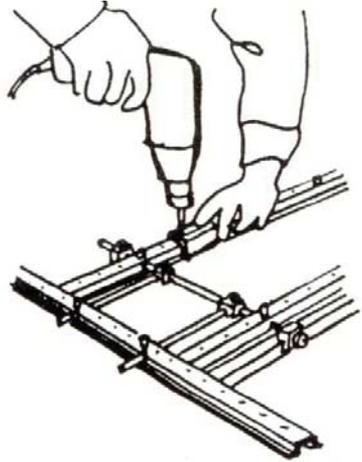

Figure 7: System hole drilling.
Step 1: You can eliminate error in spacing holes for shelf supports (for example, in book case construction), by using Veritas 32 as a drilling template. Set up the side rails at the distances from the edges that are suitable for shelf support insert location. Place the first hole in the rail at the position for the first support. (See **Figure 7.**)